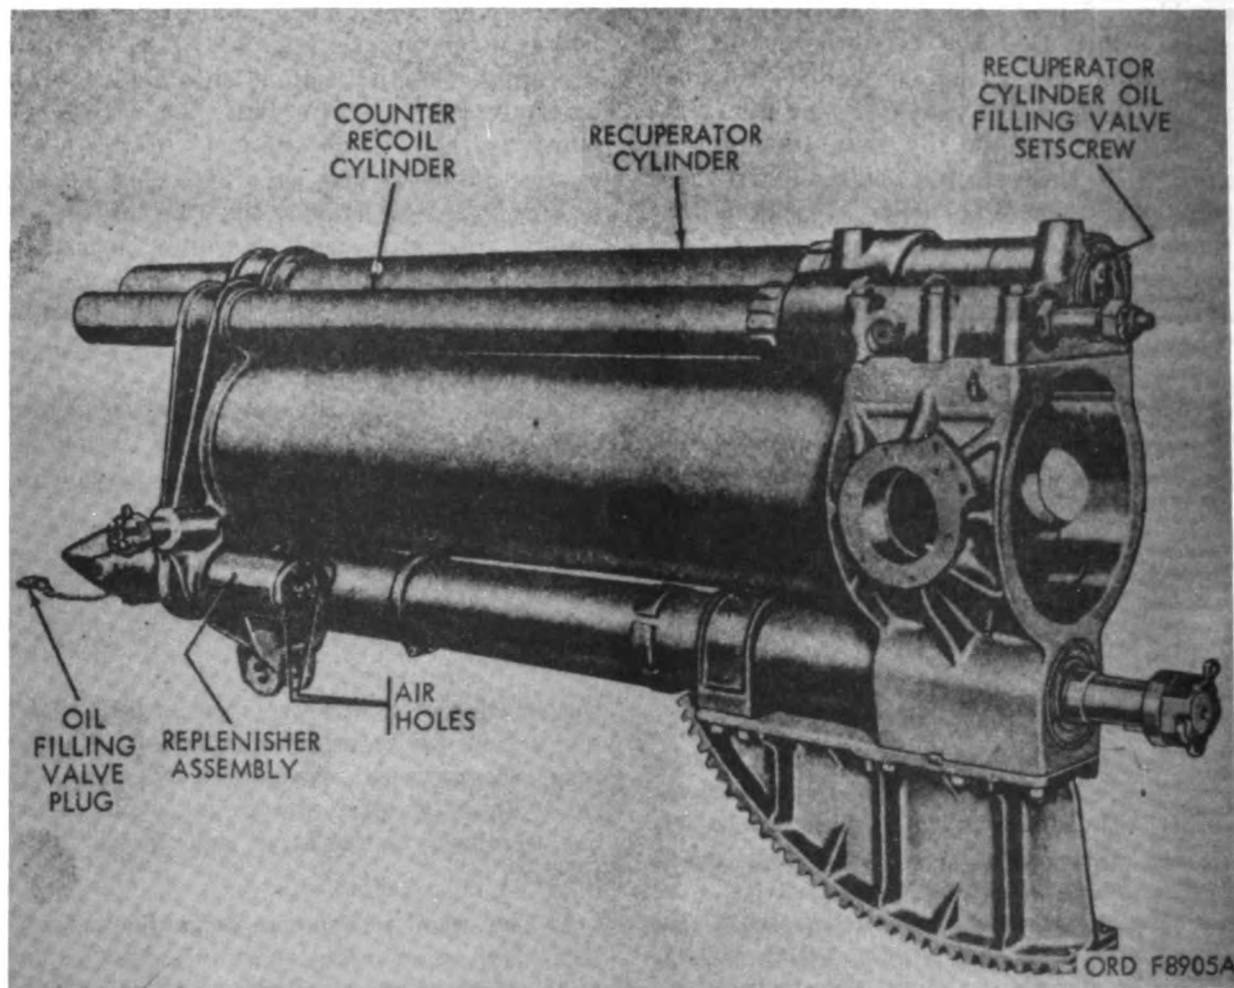

Figure 125. Recoil mechanism removed from carriage—left side view.
- (a) The replenisher (figs. 125 and 129) serves as a fluid reservoir for the recoil cylinder. It stores excess fluid forced from the recoil cylinder by expansion of the fluid due to increased atmospheric temperature or to heat developed by firing. It supplies fluid required to compensate for contraction of the fluid due to low temperatures.
(a) The counterrecoil cylinder (fig. 125) is the smaller of the two cylinders mounted above the howitzer. Its front end is closed by the respirator and is supported by, and is a slip fit in, a bore in the cylinder yoke. Its rear end is assembled in its bore in the counterrecoil and recuperator cylinder head stuffing box. The rear end of this bore is sealed by the counterrecoil rod stuffing box head,
**(2) Recuperator cylinder.**
- (a) The recuperator cylinder (fig. 125) is the larger of the two cylinders mounted above the weapon. Its front end is supported in a bore in the cylinder yoke and is locked by two nuts. Its rear end is assembled in the right bore of the counterrecoil and recuperator cylinder head stuffing box. The front end of the recuperator cylinder is sealed by the front recuperator cylinder head, which is equipped with the recuperator charging valve and protected by a cover (fig. 131). The rear end of the recuperator cylinder bore of the head stuffing box is sealed by the recuperator oil index housing. This housing is fitted with an oil filling valve and plug and the oil index (fig. 130).
- (1) The recoil mechanism should be examined regularly for leakage of fluid. There is no cause for concern should the fluid drip rapidly, or even run a stream, from the rear of the replenisher when the howitzer is elevated, provided that the weapon has been at 0° elevation for some time. This condition may exist in a normal replenisher. A leak at any packing that does not exceed three drops per minute is not considered serious; if the loss of fluid is greater, report the matter to ordnance maintenance personnel.
- (2) Keep the air holes open in the rear of the replenisher piston guide (fig. 125). Use a wire to clean these openings.
- (3) When the howitzer is not being fired, check the replenisher and recuperator cylinder fluid reserves weekly (pars. 39i(1)(a), (2)(a)). If the proper amount of reserve fluid is not present, establish the proper reserve (d and f below).
(4) Failure of the weapon to return to battery or slow return to battery indicates that the nitrogen pressure in the recuperator cylinder is too low. Notify ordnance maintenance personnel.